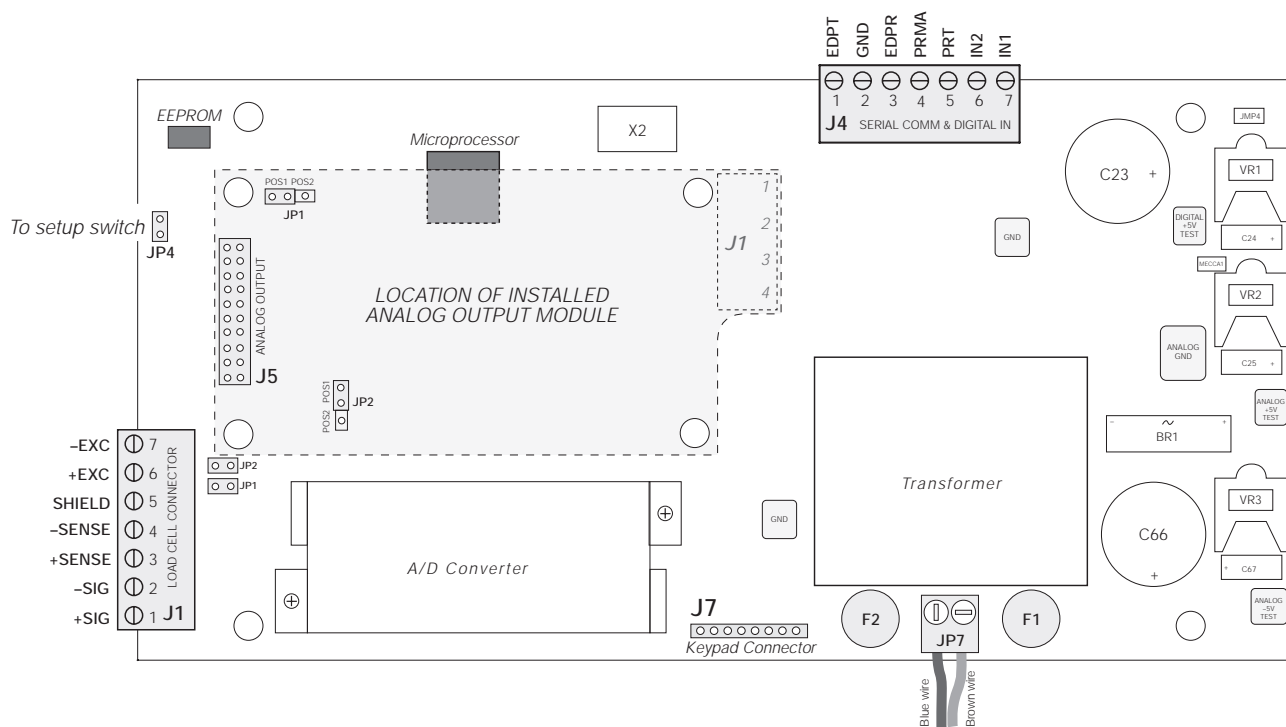

Figure 2-3. IQ plus 355 CPU and Power Supply Board
- Two 7-position screw terminals (PN 42104) for connectors J1 and J4 (see Figure 2-3 on page 5).
Wire the load cell cable from the load cell or junction box to connector J1 as shown in Table 2-1. If using 6-wire load cell cable (with sense wires), remove jumpers JP1 and JP2 before reinstalling connector J1 (see Figure 2-3). For 4-wire installation, leave jumpers JP1 and JP2 on.
Mount the analog output module on its standoffs in the location shown in Figure 2-3 on page 5 and plug the module input into connector J5 on the IQ plus 355 board. Connect output cable to the analog output module as shown in Table 2-3, then reassemble the enclosure (Section 2.5).
2. Unplug connectors J1 (load cell cable), J4 (serial communications and digital inputs), J7 (keypad ribbon cable), and JP4 (setup switch). Remove blue and brown power input wires at JP7. If an analog output board is installed, disconnect the analog output cable. See Figure 2-3 on page 5 for connector locations.